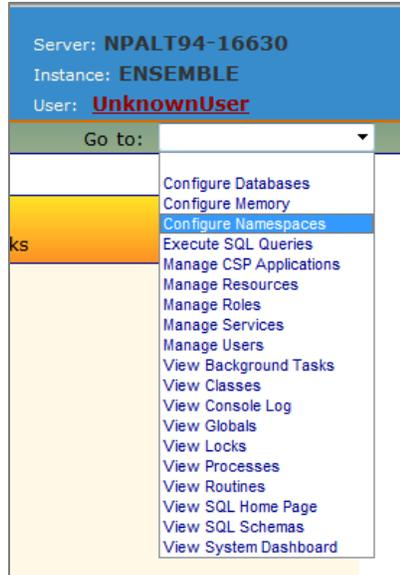

Figure 4-13: Go to list
2. Select **Configure Namespaces** from the **Go to** list shown in Figure 4-13: